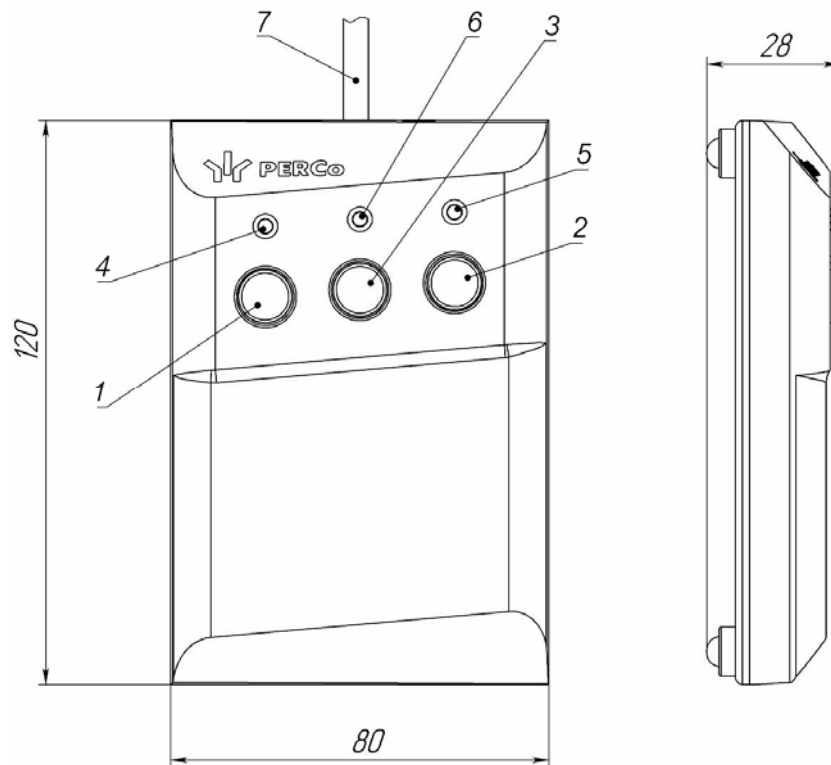

Figure 3. RC panel overall view
5.2.4 The RC panel is designed as a small desktop device with a shockproof ABS plastic case and is intended for setting and indicating operating modes when the turnstile is operated manually. The RC panel overall view is shown in Fig. 3.